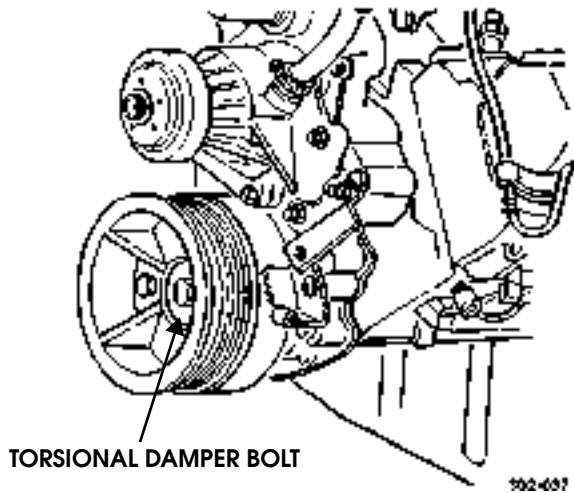

Figure 3-47: Torsional Damper Bolt Location
2. Using torsional damper bolt (Figure 3-47), rotate crankshaft to bring affected piston to TDC position.